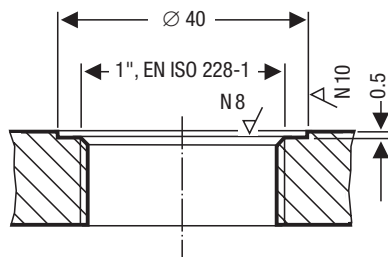

Fig. 12
1. Check seating surfaces, Fig. 7, Fig. 12
- The seating surfaces of the standpipe or the flange provided on the vessel must be accurately machined, see Fig. 7, Fig. 12.